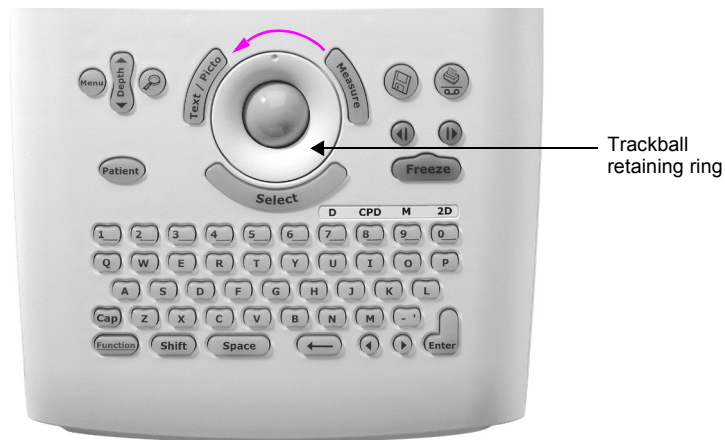

Figure 7.9 Removing the Trackball Retaining Ring
- 8 Remove the trackball retaining ring. Carefully insert the tip of a blunt punch into the indent and turn the trackball retaining ring slightly counterclockwise. This releases the ring and allows you to remove it (Figure 7.9).